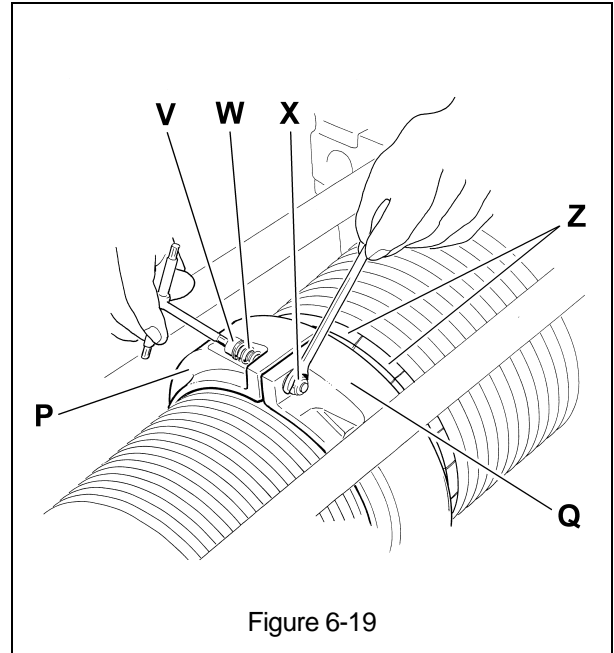

Figure 6-19
13) Unscrew the Nuts (X) remove the Screws (V) and the Springs (W) from the Rope Guide Ring Halves (P and Q), then remove the Ring Half (Q) (see Figure 6-19).